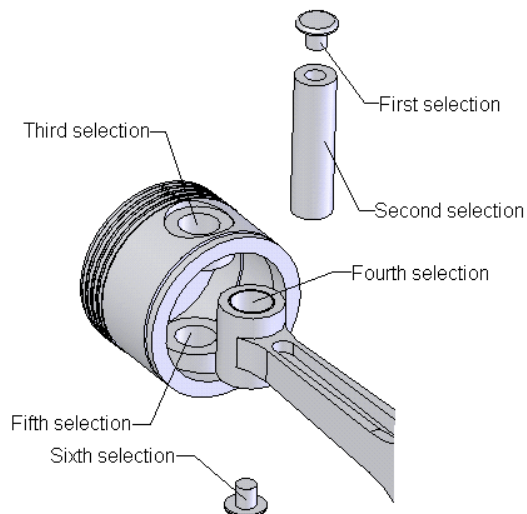

Figure 11-54 *Faces to be selected to create explode line sketch*
3. Select the cylindrical face as shown in Figure 11-54 as the first selection. The name of the selected face will be displayed in the **Items To Connect** display area. The preview of the explode line sketch is displayed at the center of the selected face.
4. Refer to Figure 11-54 and select the cylindrical faces to create the explode line sketch.